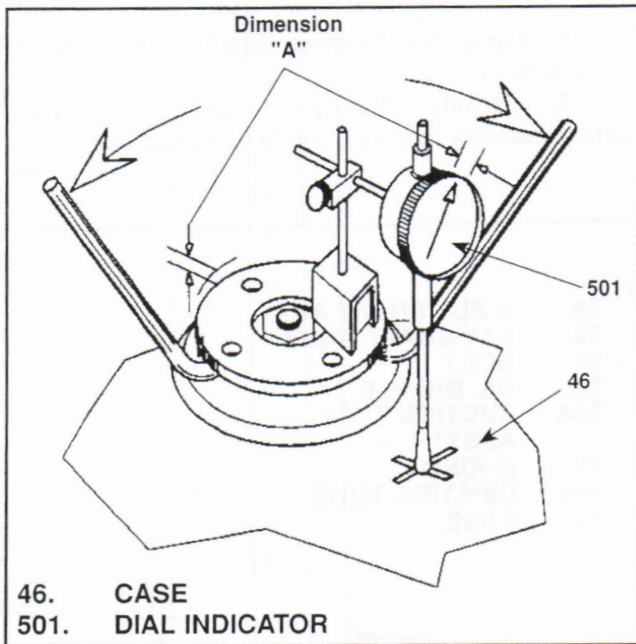

Figure 5-13. Magnetic Base Dial Indicator
e. Mount a dial indicator as shown in figure 5-13.